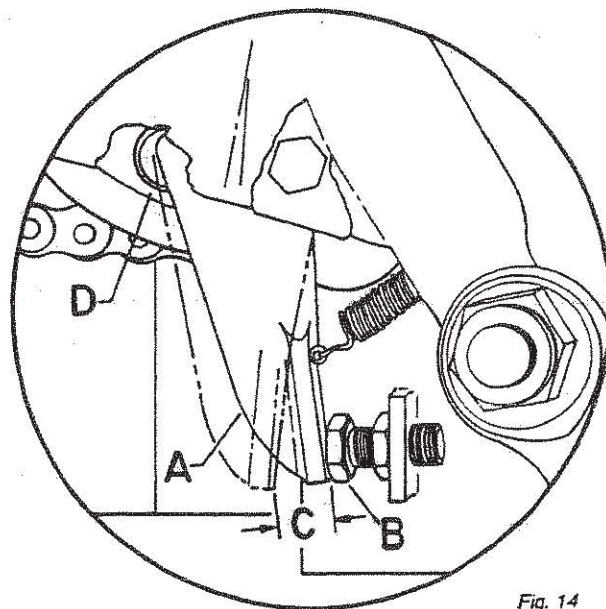
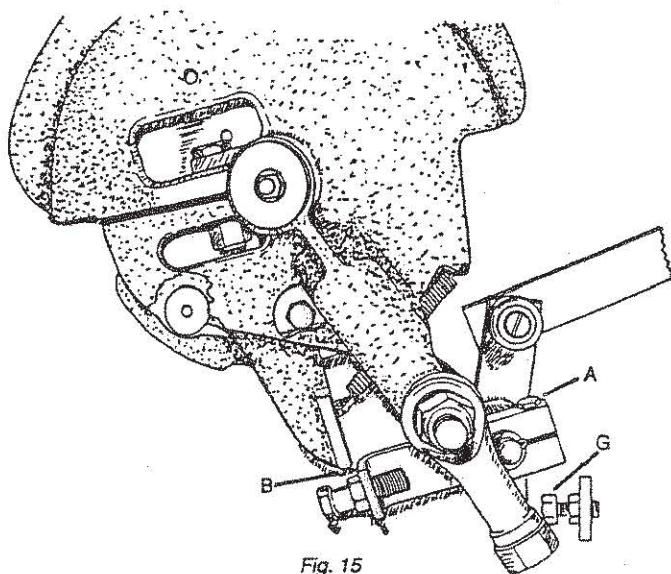

Fig. 14
Fig. 15
b. Loosen clamp bolt "A," Fig. 15 to position stop bolt "B," Fig. 14 square to the face of clutch pawl "A," Fig. 14.
c. The clutch pawl must have approximately $\frac{1}{2}$ " clearance at "C," Fig. 14, when depressed. The clutch pawl roller should have $\frac{1}{8}$ " clearance at "D" when the notch in the clutch disc is not near the clutch pawl roller. Adjust with bolt "B" Fig. 14.
d. Trip the knотter clutch and rotate the clutch. The clutch pawl must have $\frac{1}{8}$ " clearance from the stop lever at "B," Fig. 15. Adjust with stop bolt "G."